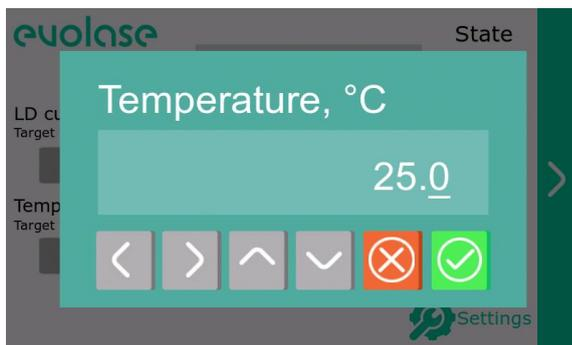

Figure 5 – Temperature setting
8. Tap on temperature value to set the laser diode temperature (fig. 5). Use the left and right arrows to select the digit to change, use the up and down arrows to change the value. Press button to save the changes and exit menu. Press button to exit menu without changes.